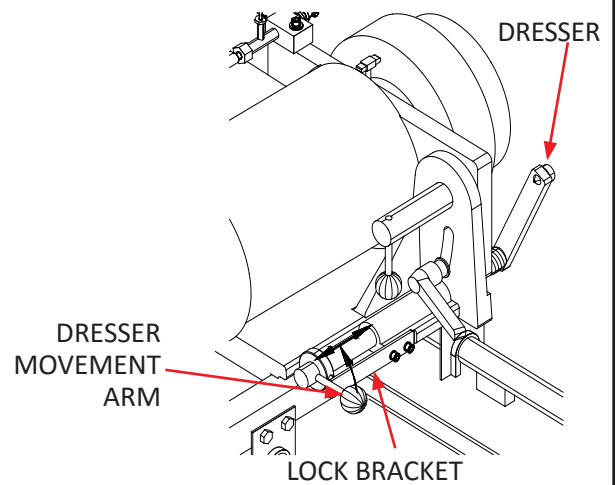

FIG. 25
7. When completed, rotate the handle clockwise against the lock bracket before pulling back and placing the dresser movement arm in the lock bracket. See FIG. 25.